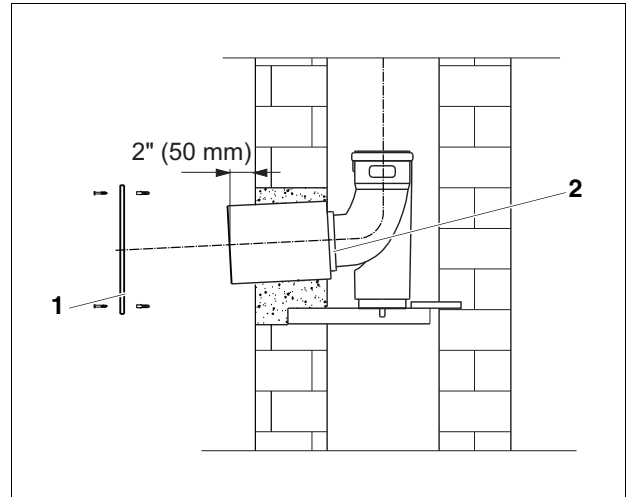

Fig. 12 Establishing chimney connection (dimensions in mm)
- Coat gasket in the sleeve of the flue gas pipe (Fig. 12, **Item 2**) of the concentric wall penetration with CENTROCERIN® and insert flue gas pipe into the load bearing elbow.
- Shorten the penetrating pipe and flue gas pipe so it extends beyond the chimney wall by 2" (50 mm) (Fig. 12).
- Slide on the cover plate (Fig. 12, **Item 1**), mark and drill mounting holes, insert wall anchors, and screw on cover plate.